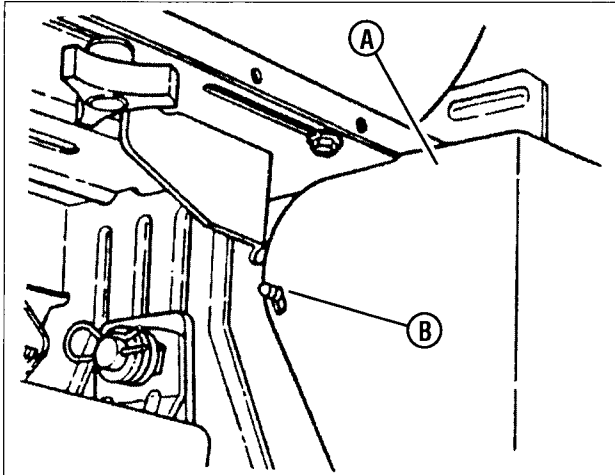

Figure 48: Removing the battery cover
1. Carefully pull each side of the battery cover (**A, Figure 48**) away from the ratchet fasteners (**B**) and remove the cover.
5. Reinstall the battery cover (**A, Figure 48**).
12. Reinstall the battery cover (**A, Figure 48**).